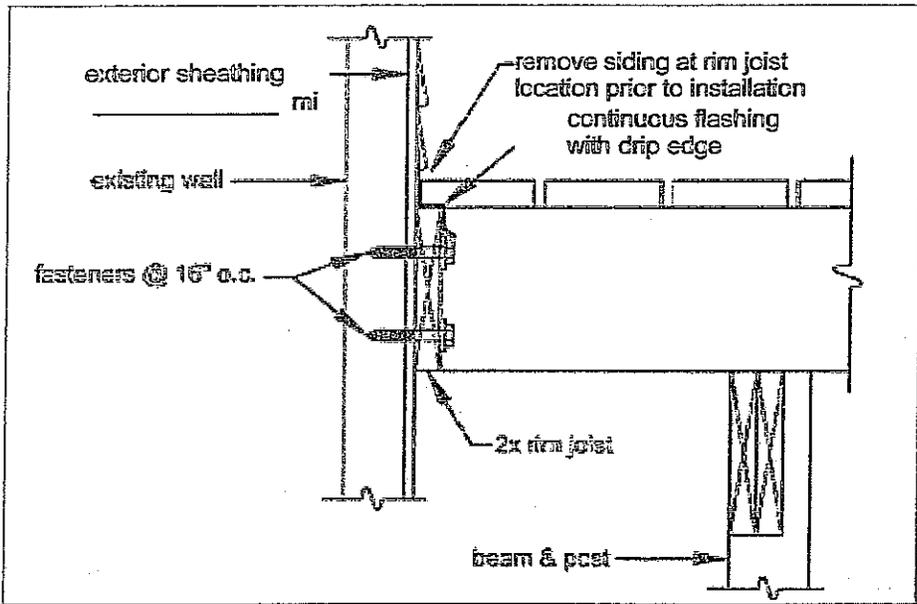

FIGURE 15: ATTACHMENT TO HOUSE LATERAL SUPPORT
2. **Attachment To House:** lateral support is provided by the attachment of the deck rim joist to the existing house as shown in FIGURE 15. The existing exterior wall must have sheathing consisting of structural wood panels with a minimum thickness of $\frac{3}{8}$ " and the fasteners shall attach to an existing band board or wall stud. The deck rim joist may also attach to a masonry or concrete wall, but not to a brick veneer. **YOU MUST VERIFY THIS CONDITION IN THE FIELD PRIOR TO UTILIZING THIS METHOD.** Fasteners shall be 16" on center and must penetrate existing wall studs. See also the provisions noted on sheet 6. Flashing over the rim joist is required and must be installed in accordance with the flashing provisions noted on sheet 4. For rim joist size and requirements, see sheet 10.